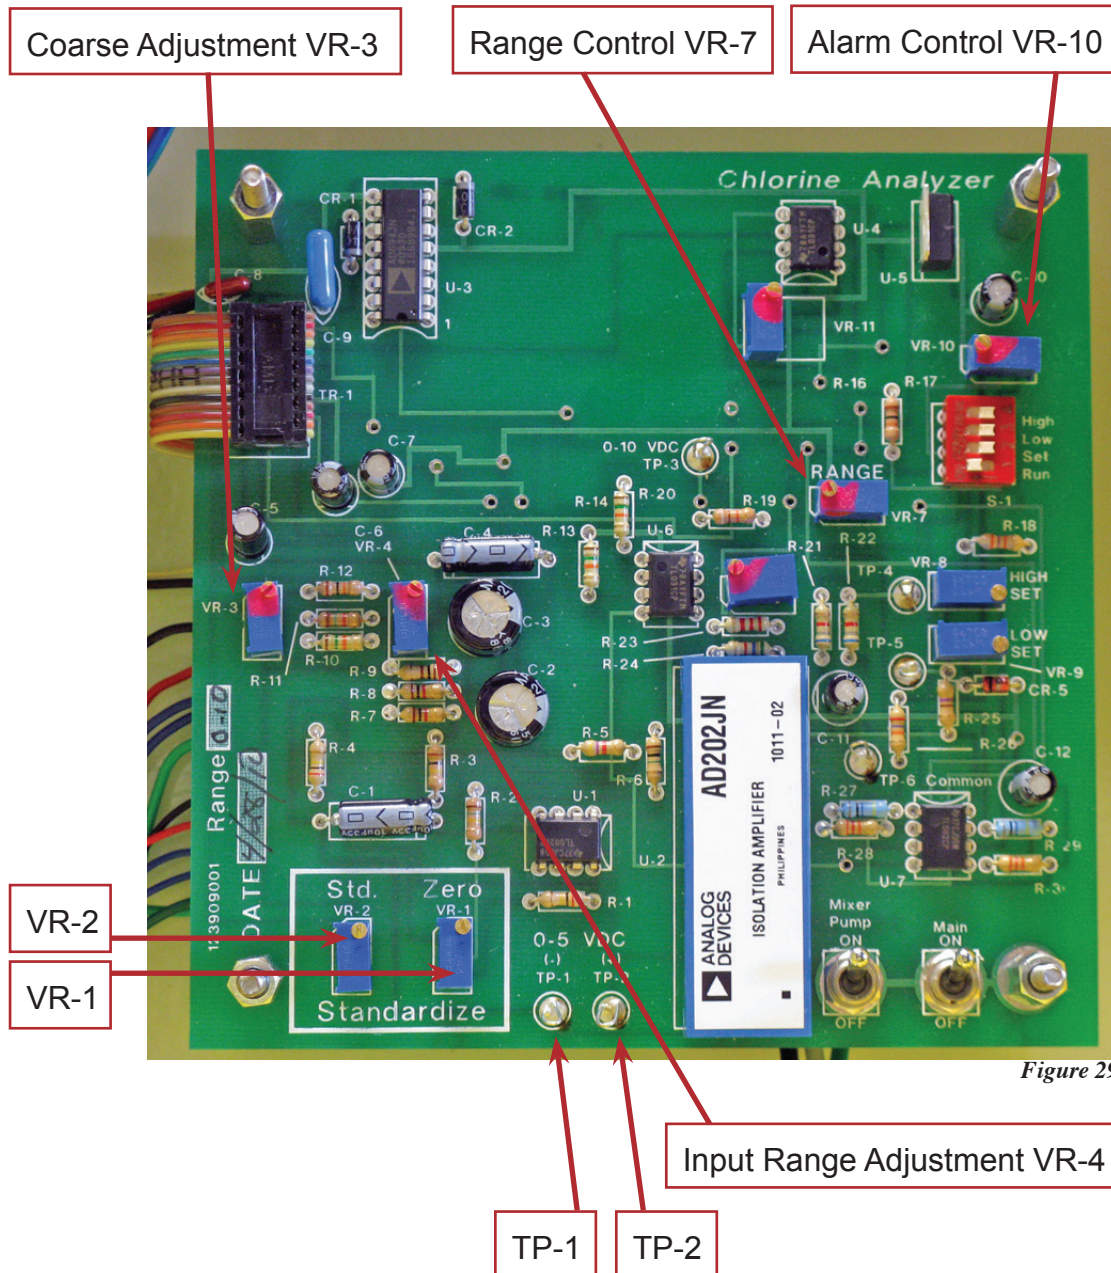

Figure 29
4. Locate the ZERO control (VR-1; see **Figure 29**, page 25). Adjust the ZERO control until the FX-1000p-B display reads 0.00 ppm (+/- 0.01 ppm).
3. See **Figure 29** (page 25) to locate the Std. control (VR-2), and adjust it until the FX-1000p-B display reads the known, ppm value. **If the Std. control is out of adjustment refer to “Coarse Adjustment” on page 23.**
Follow the directions for setting ZERO Control on page 22, but use the following adjustment for span (Std. control), instead of the normal procedure. See **Figure 29** (page 25) for trimmer locations.
See **Figure 29** (page 25) for trimmer locations.